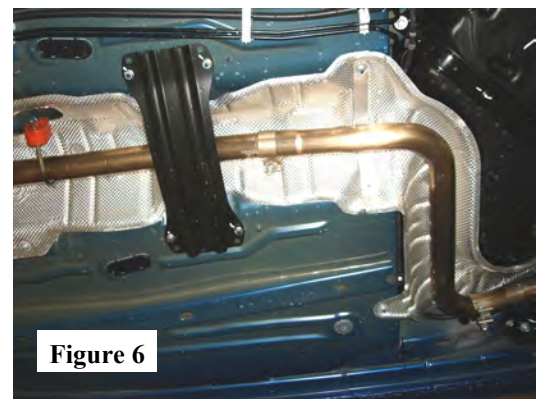

Figure 6
2. Place clamp over expanded end of Intermediate Pipe Assembly and insert into Front Muffler Assembly. Insert hangars into rubber isolators. (See Fig. 6)